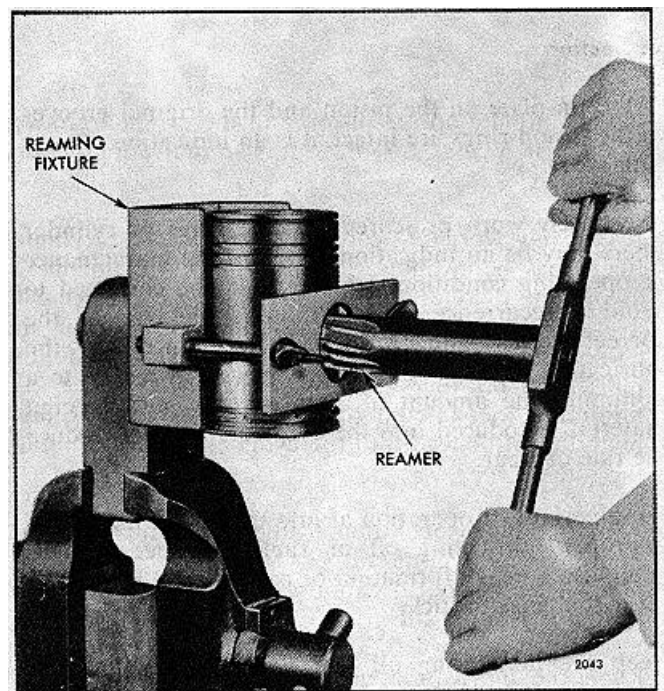

FIG. 7 - Reaming Bushings in Piston
- a. Clamp the reaming fixture J 5273 in a vise (Fig. 7). Then insert the guide bushing J 3071-7 in the fixture and secure it with the set screw.
- d. Ream the bushings (Fig. 7). Turn the reamer in a clockwise direction only, when reaming or withdrawing the reamer. For best results, use only moderate pressure on the reamer.